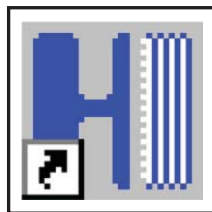

Figure 4 - Hübner software Icon
- 1.6. Start the Hübner software by clicking the icon. See Figure 4.